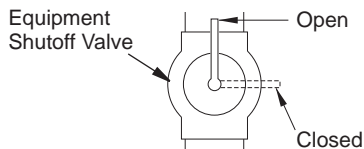

Figure 8 - Equipment Shutoff Valve
1. Close equipment shutoff valve (see Figure 8).
1. Open equipment shutoff valve (see Figure 8, page 9).